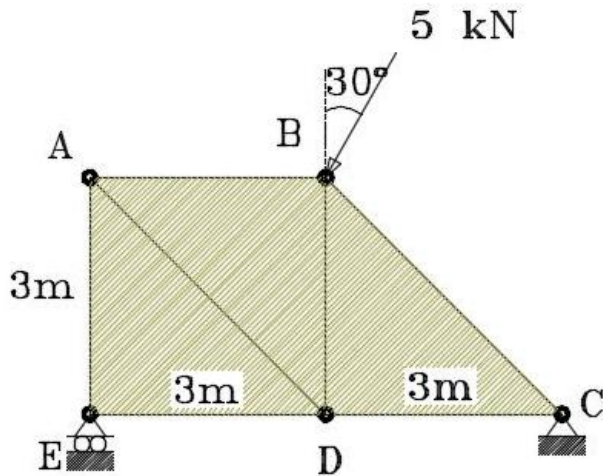

Fig 3
6. Determine the reaction and the forces in each member of the simply supported truss as shown in Fig 3. (14 Marks)